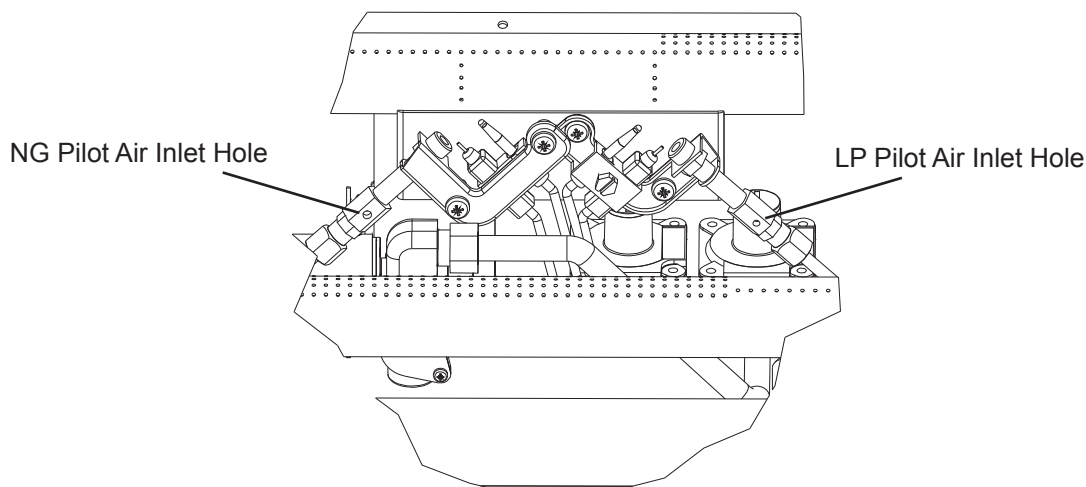

Fig. 25 - Pilot Inlet Air Hole
- Clean the pilot assembly also. A yellow tip on the pilot flame indicates dust and dirt in the pilot assembly. There is a small pilot air inlet hole about 2" from where the pilot flame comes out of the pilot assembly (see Figures 25). With the unit off, lightly blow air through the air inlet hole. You may blow through a drinking straw if compressed air is not available.